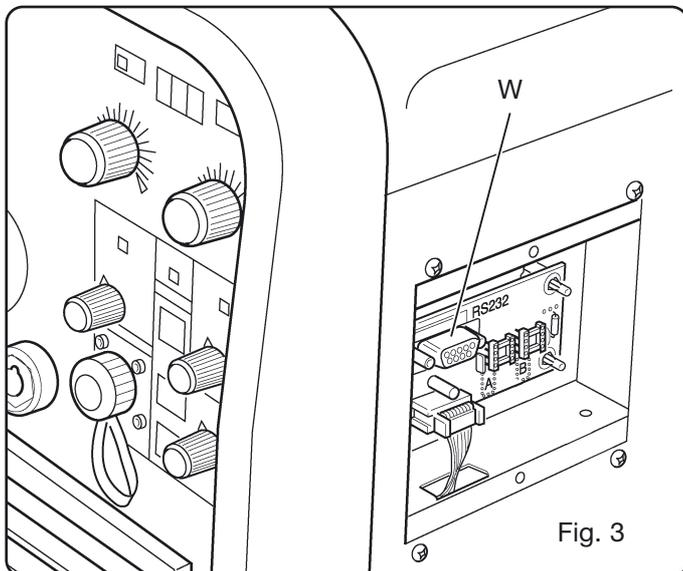

Fig. 3
3.4 KONTAKTDON AV TYP DB9 (RS 232) (fig. 3)